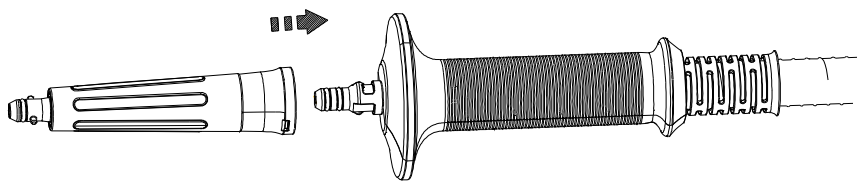

Figure 10
b. Install straight nozzle: Align the snap on the straight nozzle with the sliding notch on connector on steam port of hose and push in. Then rotate the straight nozzle until the snap enters the notch, which indicates it is installed in place, as shown in Figure 10.